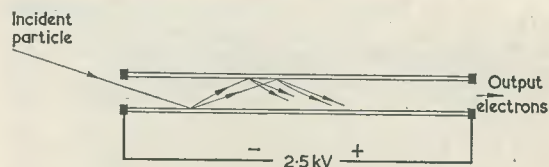

Fig. 3. A tubular channel multiplier
Electron multipliers have been developed which consist of a glass tube containing a resistive coating on its internal surface⁽⁷⁾ (8). The incident radiation passes into this tube and secondary emission occurs when the radiation strikes the resistive film. The emitted electrons are accelerated along the tube by an applied potential (see Fig. 3) until they strike the resistive film again forming more secondary electrons. The number of times at which multiplication occurs along the length of the tube depends on the applied potential, the energy and the angle of incidence of the original particles.